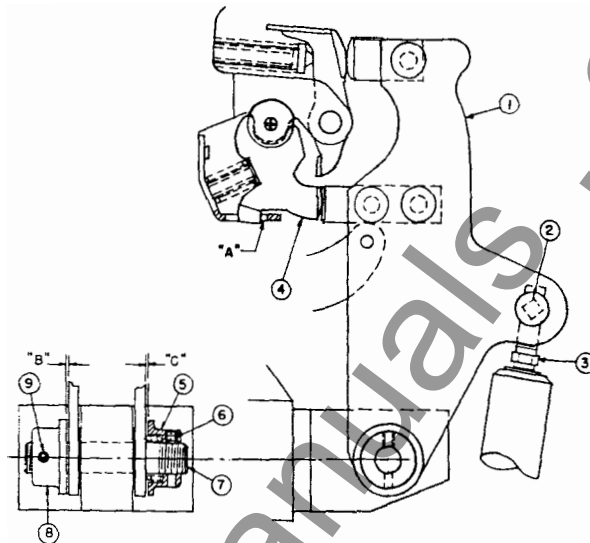

Fig. 6—Contact Pressure and Bridge Pivot Pressure
1. Contact Pressure (See Fig. 6)
2. Bridge Pivot Pressure (See Fig. 6)